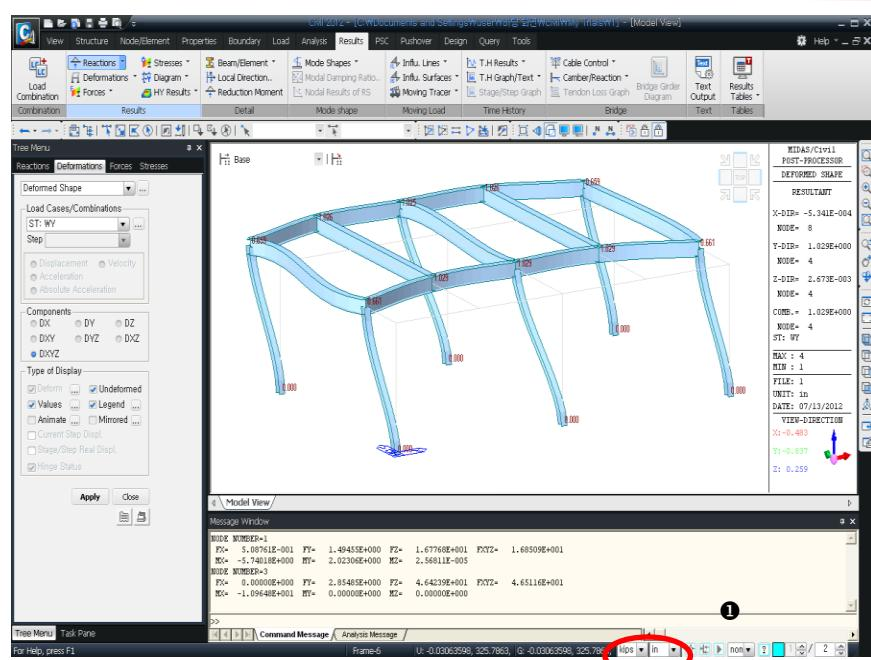

Figure 1.27 Deformed Shape (Scale Factor = 5.0)
5. Click in the unit conversion button at the bottom of the window (Fig.1.27–①) and select “**in**”.
② Click to the right of Values in Type of Display to adjust the decimal points of the v values displayed.